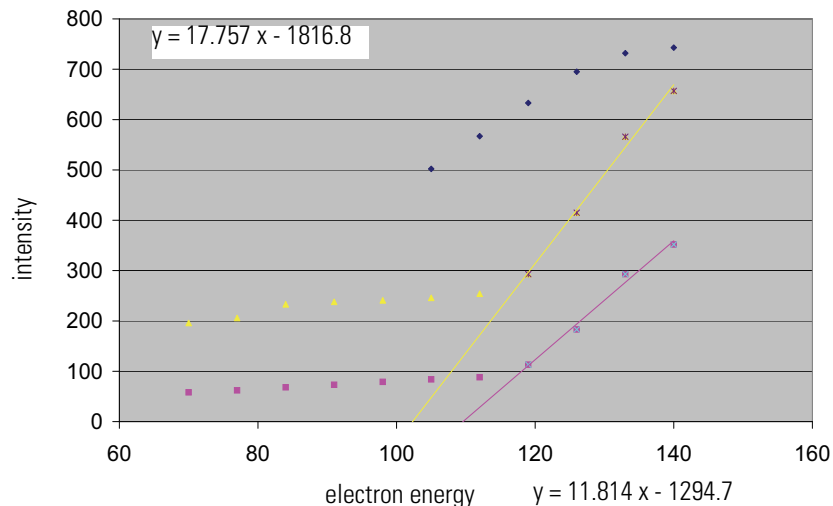

Figure 5-33. Signal intensity on m/z 2 vs. electron energy
3. Record the signal intensity on m/z 2 versus the electron energy. See Figure 5-33.